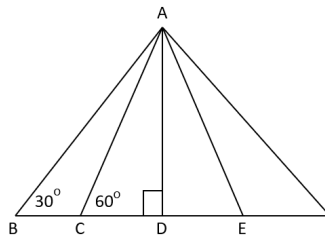

Figure Q1a: Support for a suspension bridge.
- a) **Figure Q1a** shows a model for the **symmetric** supports of a suspension bridge. The span $BF = 15$ m represents the deck of the bridge, and the inclined members AB and AC are support cables or beams, with angles of 30° and 60° . The vertical distance AD represents the height of the support towers from the deck. Calculate, AF and DE .